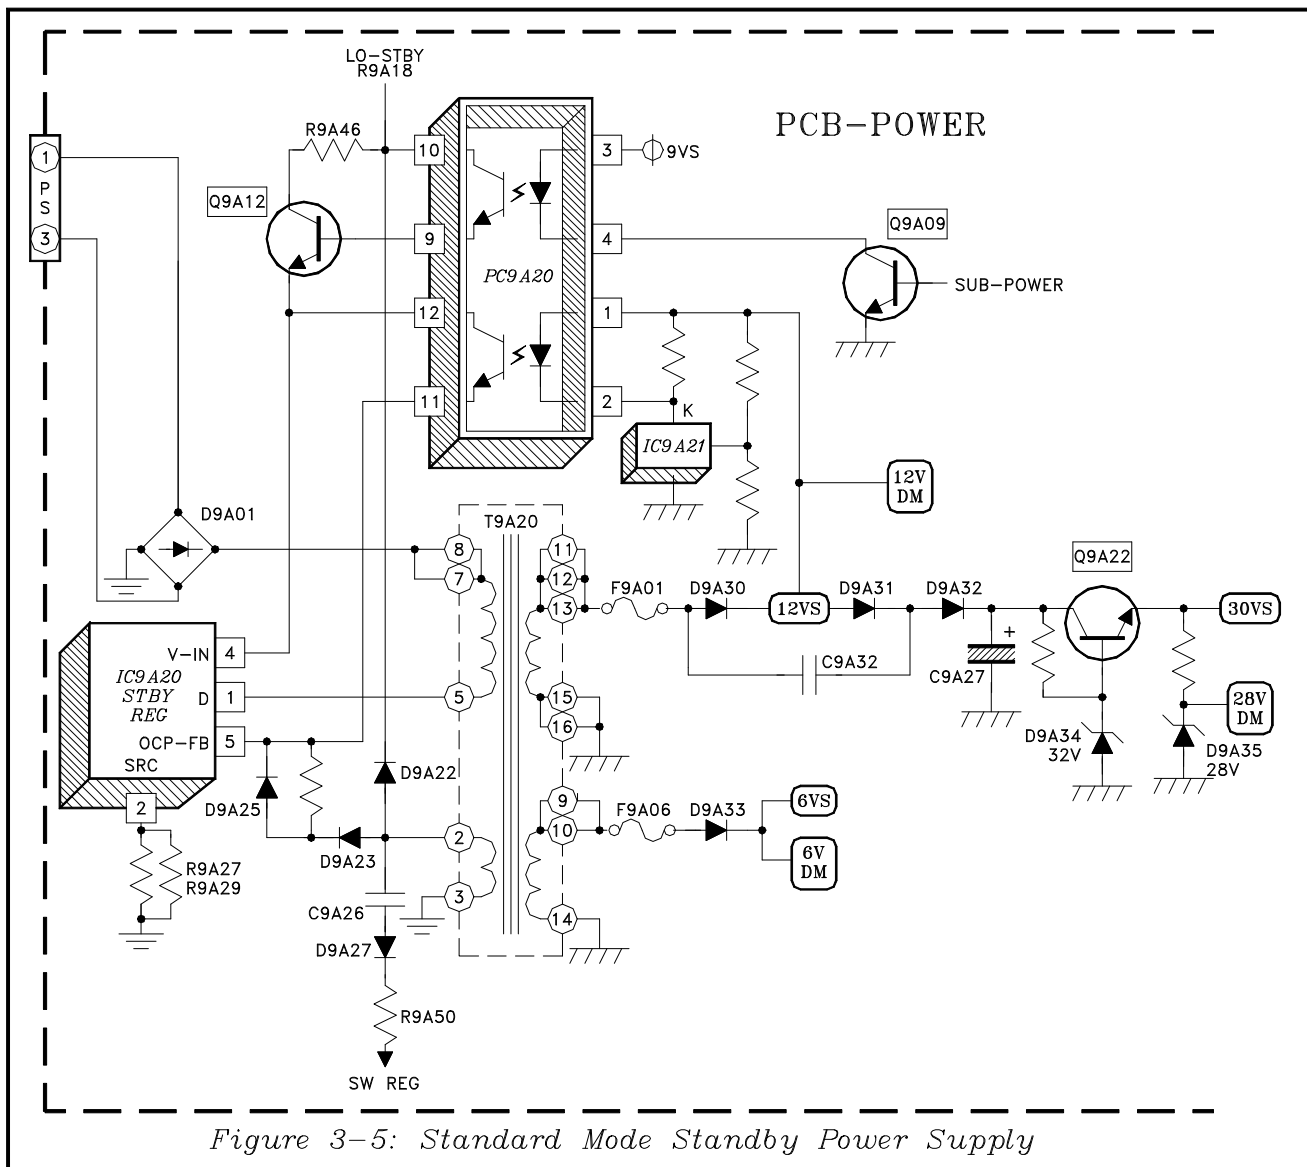

Figure 3-5: Standard Mode Standby Power Supply
The Standard Standby Regulator circuit is shown in *Figure 3-5*.
- Check that the SUB-POWER command line does not go High (Fig. 3-5).
- Chirping sound - check the Standby Regulator, IC9A20 (Fig.3-5).